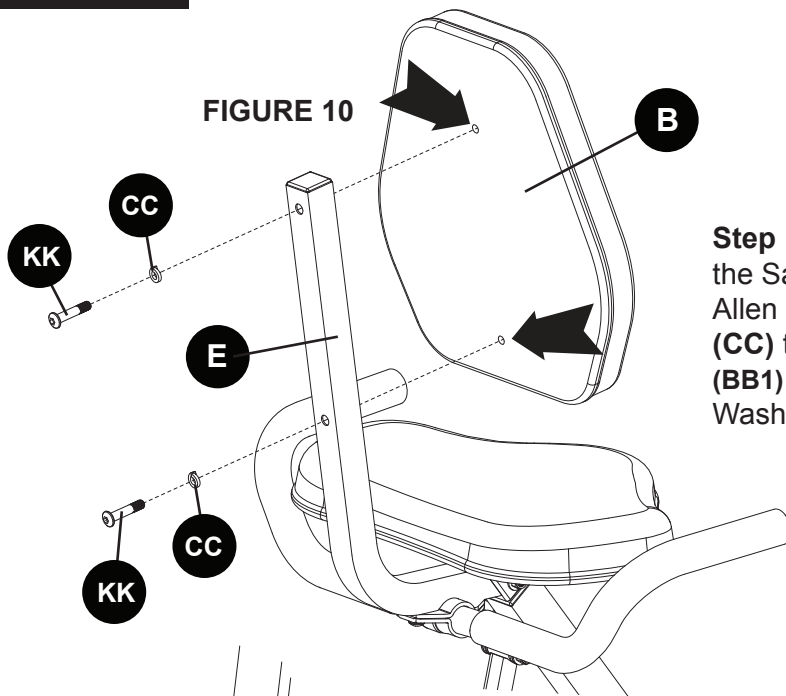

FIGURE 10
Step 10: Install the Seat Back Cushion (B) to the Saddle Back Post (E) using two Oval Head Allen Screws M8 x 42mm (KK), Lock Washers (CC) tighten using the supplied Allen Wrench (BB1). Be sure the Allen Bolts (KK) and Lock Washers (CC) sit flush in the holes. **Figure 10**